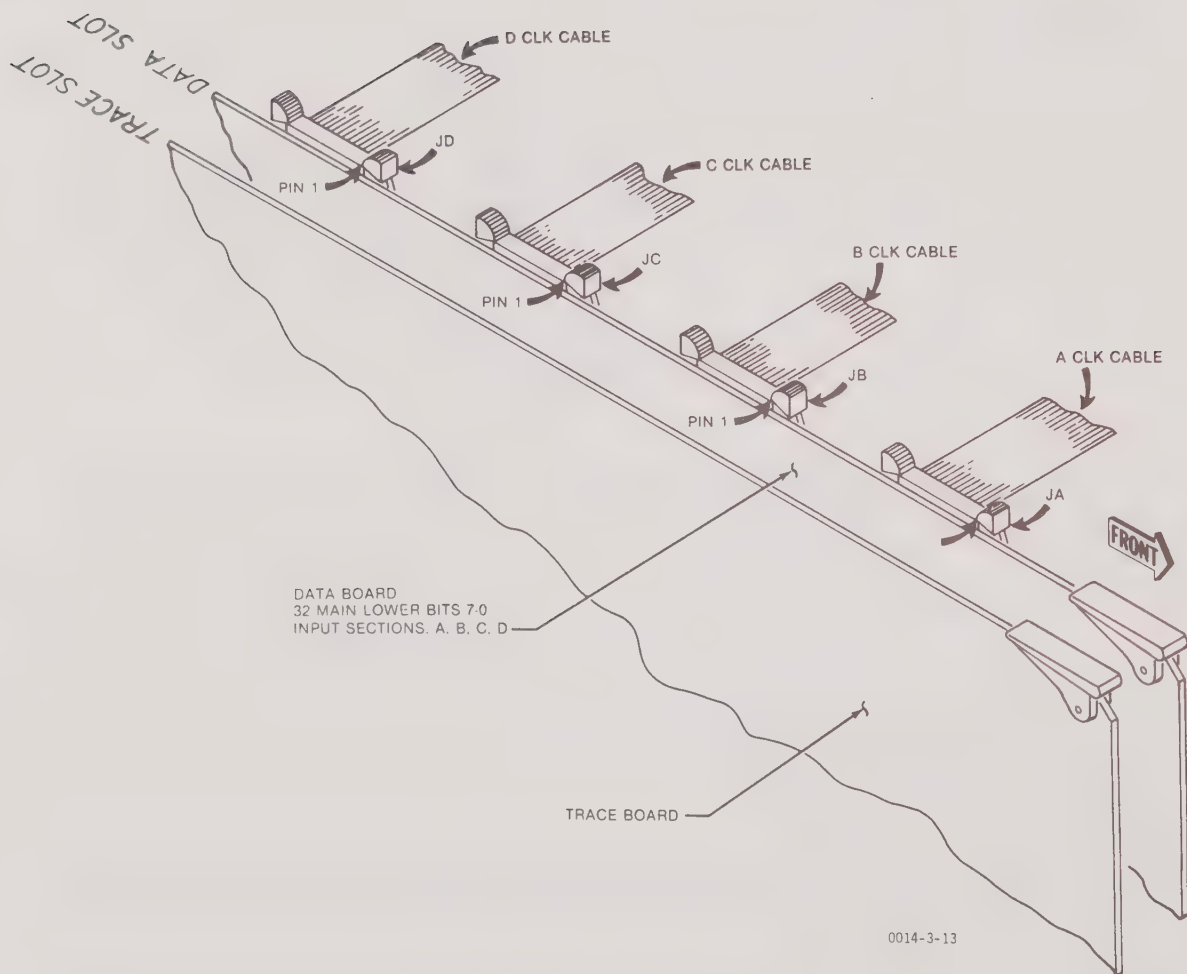

Figure 7-4. 32 Main Input Lower Bits Option, Ribbon Cable Connections
4. Referring to Figure 7-4, insert the Data board (Part Number 0117-0145-10) into the slot labeled DATA. The solder side of the board should be oriented toward the power supply. Locate the unattached ribbon cables designated A CLKJ, K, 7-0, B CLKJ, K, 7-0, C CLKJ, K, 7-0 and D CLKJ, K, 7-0. Attach the ribbon cables as follows: